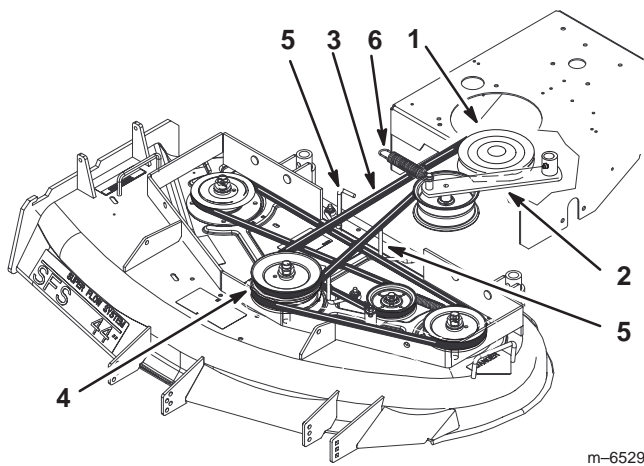

Figure 63
4. Remove the idler spring from idler arm. Remove the drive belt from the PTO engagement pulley and the center spindle pulley (Fig. 63).
5. Remove the worn drive belt (Fig. 63).
6. Install the new drive belt onto the PTO engagement pulley and the top groove of the center spindle pulley (Fig. 63).
7. Install belt onto idler pulley and then install idler spring (Fig. 63).
8. Adjust PTO drive belt guides an 1/8 inch (3 mm) from belt (Fig. 63).